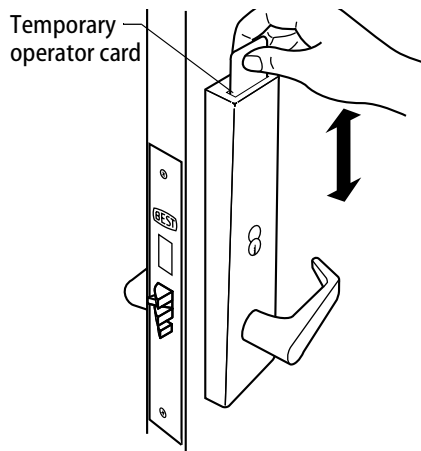

Figure 18
- 1 With the BEST logo facing toward you, insert and remove the temporary operator card as shown in Figure 18.